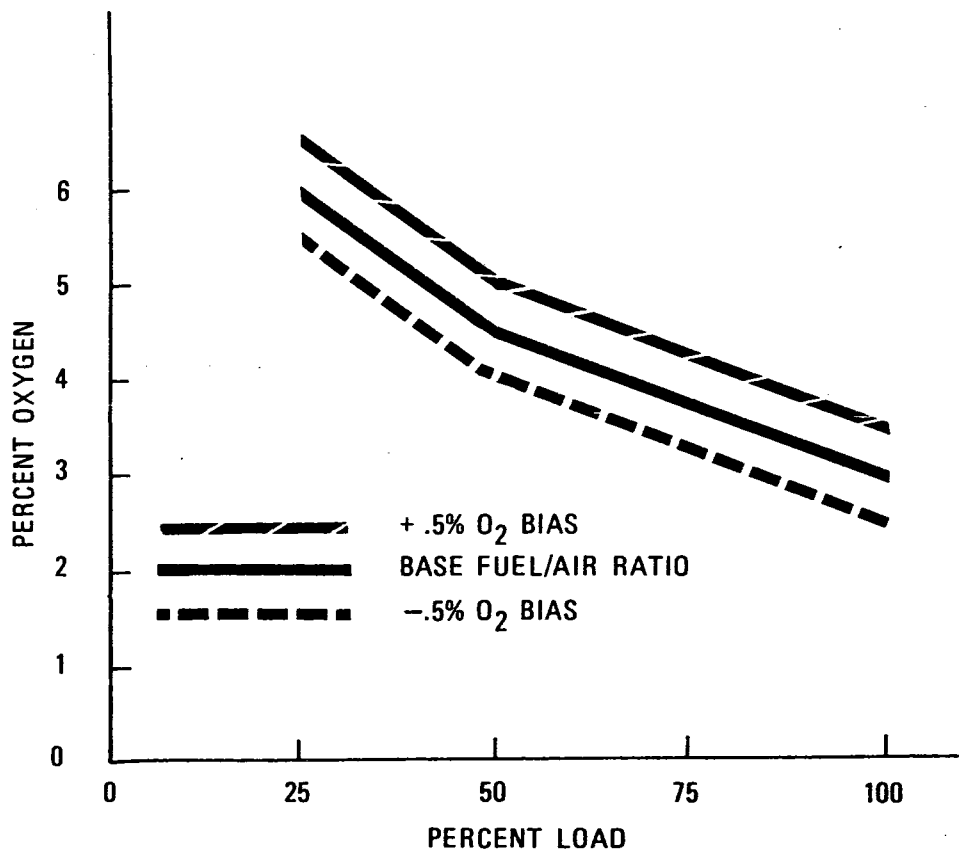

FIGURE 3-5. FUEL/AIR RATIO BIASING
**b. Standing Operating Procedures.** Simple biasing of the fuel/air ratio is often possible to allow the operator to compensate for changes in fuel, air, or other operating characteristics. This involves increasing or decreasing the amount of air flow by a fixed amount. Biasing of air flow does not change the basic fuel/air ratio. Figure 3-5 illustrates fuel/air ratio biasing. When simple biasing of the fuel/air ratio is possible, a Standing Operating Procedure should be developed to detail and authorize actions to be taken by the operator. Each time corrective action is taken, it should be noted in the boiler log. Any other adjustment to the combustion control settings must be authorized by the Director of Engineering and Housing or chief operator.